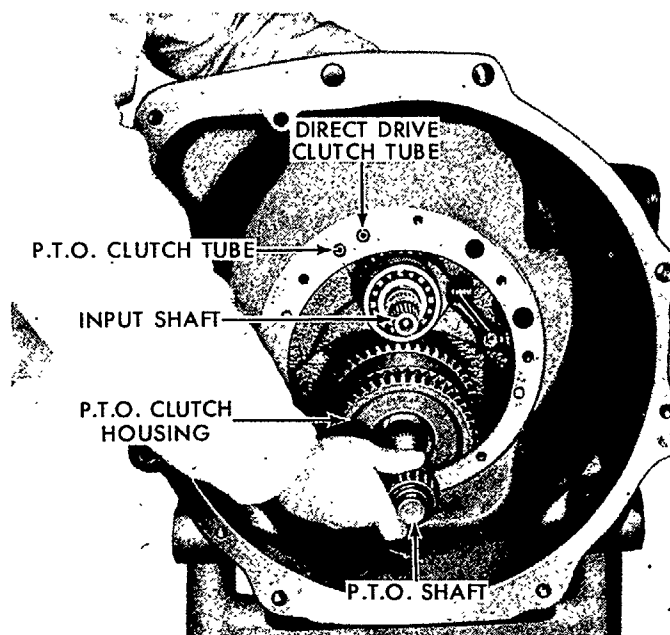

Figure 86
5. Remove the front P.T.O. shaft from the P.T.O. clutch by prying between the washer and clutch housing and pulling the shaft forward, as shown in Figure 86.
2. Install the shaft seals on the P.T.O. shaft and center them, using petroleum jelly. Install the shaft in the front of the clutch housing, and at the same time, hold the P.T.O. clutch hub. See Figure 86. Install the spacer and rear bearing adapter on the shaft as it is inserted through the housing.